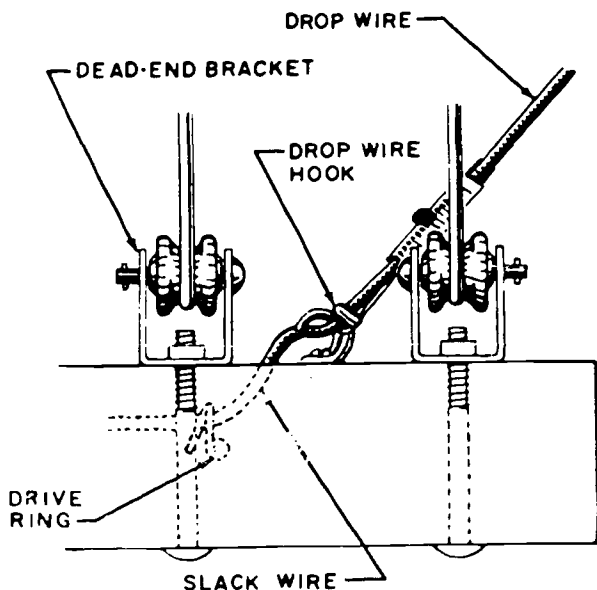

Figure 4-23. Drop wire hook installed on crossarm.
underside of the crossarm below the drop wire hook. Note in figure 4-23 that the drive ring is not located immediately below the drop wire hook, but allows the drop wire to be run in a smooth curve from the hook.
- Using figure 4-23, identify a drop wire placement requirement at the crossarm.